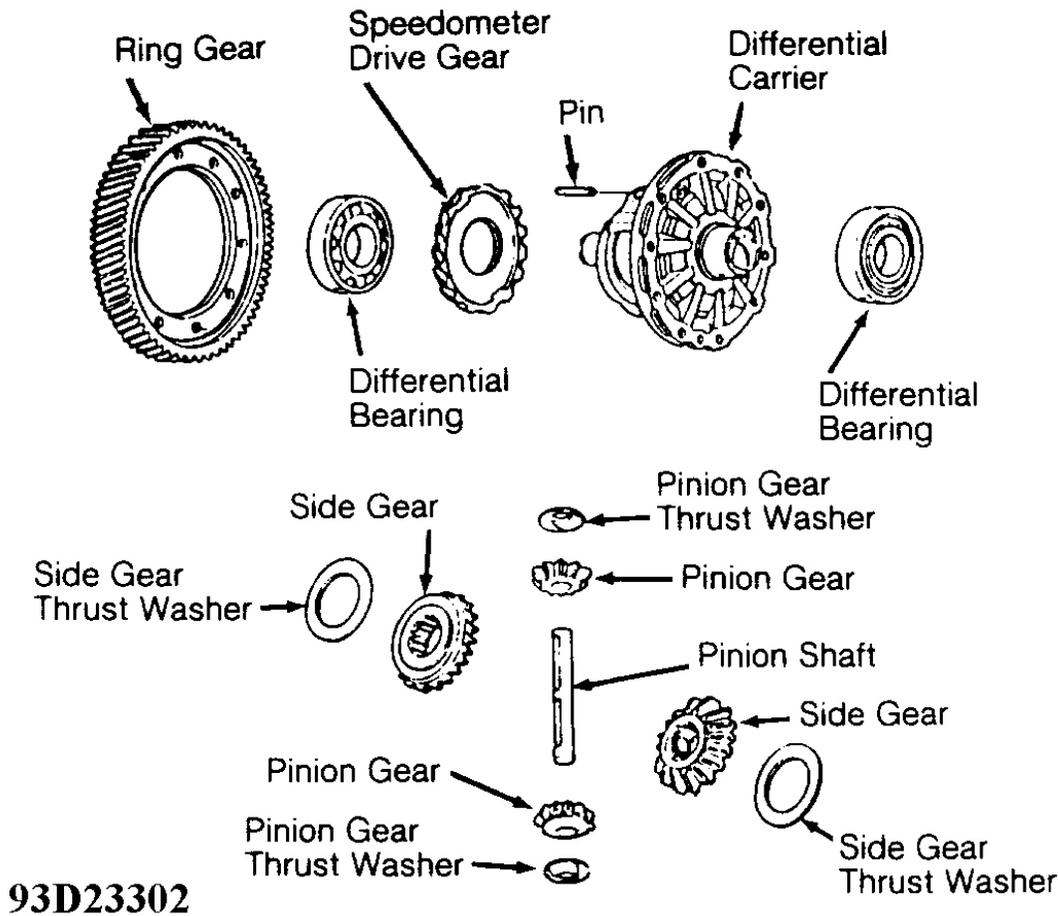

Fig. 28: Exploded View Of Differential Assembly
- Drive pin for pinion shaft from differential carrier. See **Fig. 28** . Remove pinion shaft, pinion gears, side gears and thrust washers.